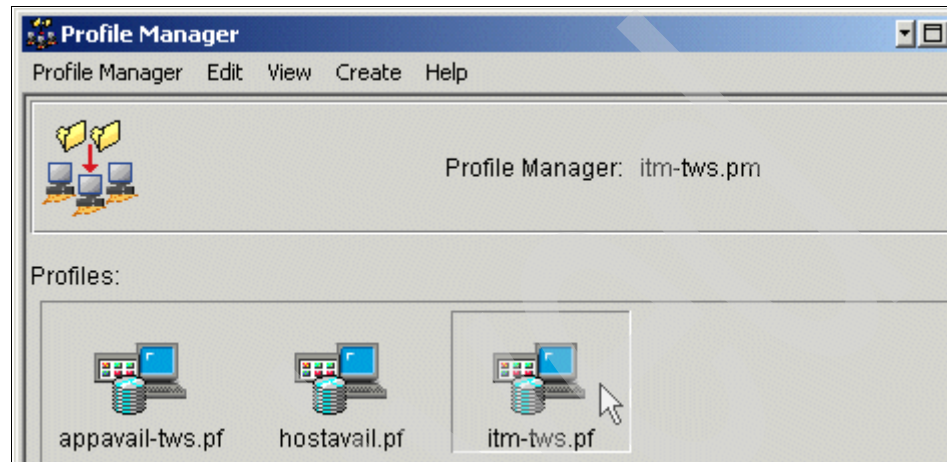

Figure 9-120 Opening the itm-tws.pf Tivoli Monitoring profile
1. From the itm-tws.pm profile manager, double-click the itm-tws.pf Tivoli Monitoring profile as shown in Figure 9-120.